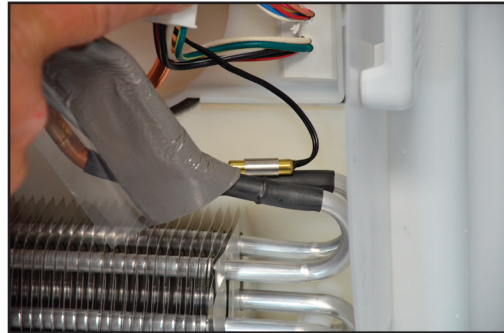

FIGURE 32
9. RC defrost thermistor clips on the evaporator coil and senses the coil temperature. The defrost thermistor is part of the RC wiring harness. To replace, order the wiring harness. See *Figure 32*.